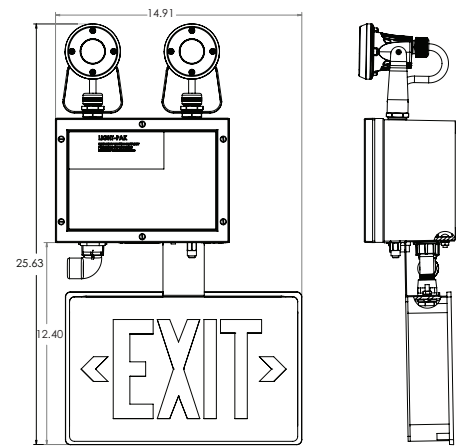

Figure 6. UX71SDHAZ
- UX71SDHAZ – UX series single-sided hazardous location LED exit sign (see Figure 6)